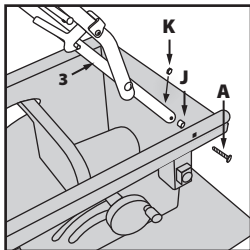

Fig. 7
- Attach component **4** in its service position on the machine. See that the position of the latching lever and pin is on the same side as the rise and fall/bevel adjustment hand wheel. **(Fig.7)**.